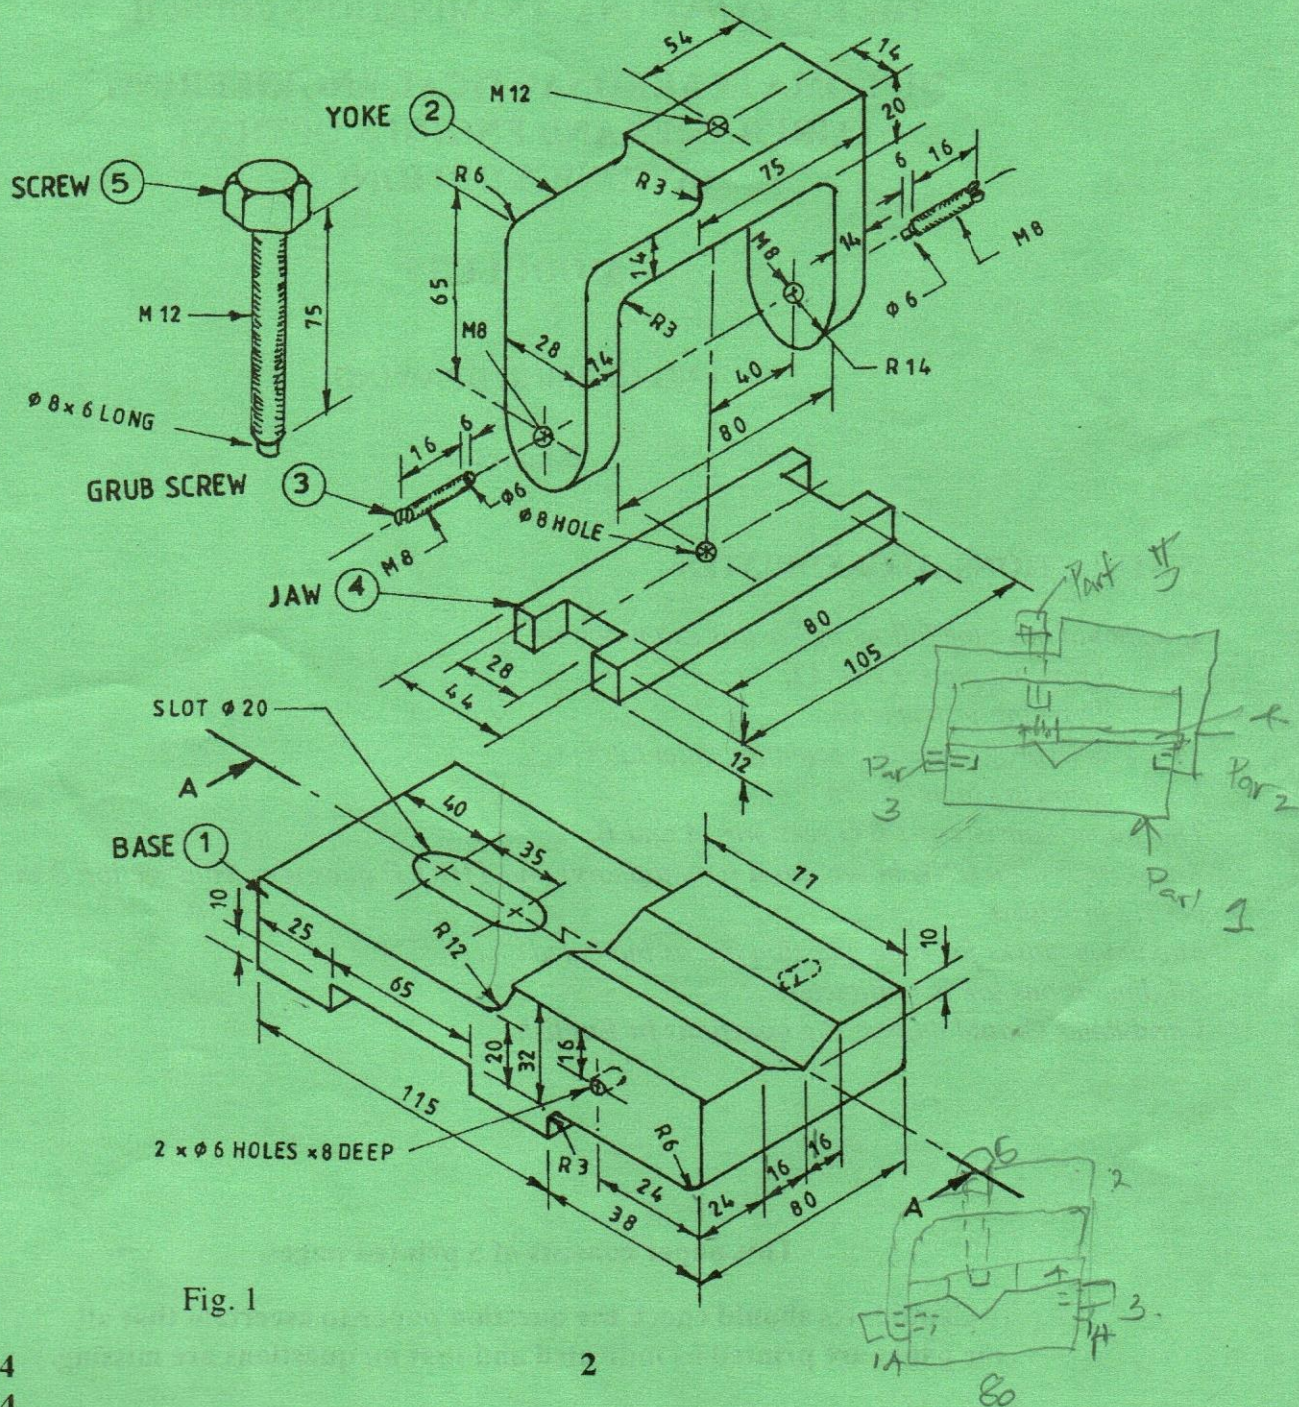

Fig. 1
1. Figure 1 shows parts of an inspection jig. The jig is to be assembled with a 150 mm length, 20 mm diameter shaft clamped between the jaw and the vee groove in the base. The shaft protrudes 10 mm beyond the right side of the base. Assemble the jig and draw full size in third angle projection the following views: